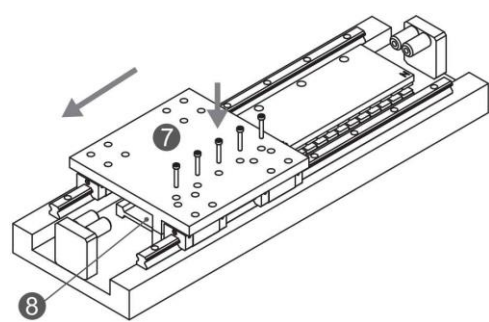

Figure 5.2-4 Move the forcer base
- ▶ Move the forcer base ⑦ to the left most side to facilitate the fastening of the forcer assembly ⑧. (refer to Figure5.2-4)